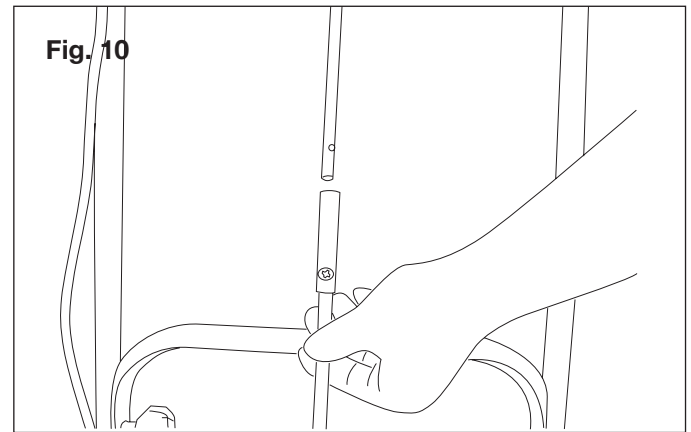

Fig. 10
3. Slide the upper chute crank into the lower chute crank (Fig. 10).